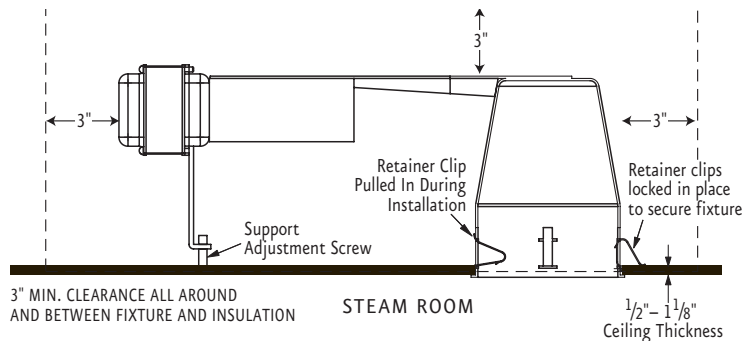
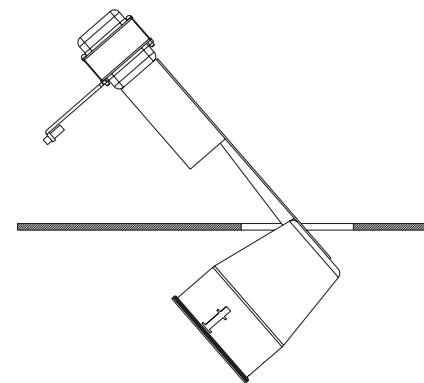

Figure 1
Figure 2
7. With the clips folded into the fixture as shown in figure 1 insert the wired housing into the ceiling junction box first as shown in figure 2.